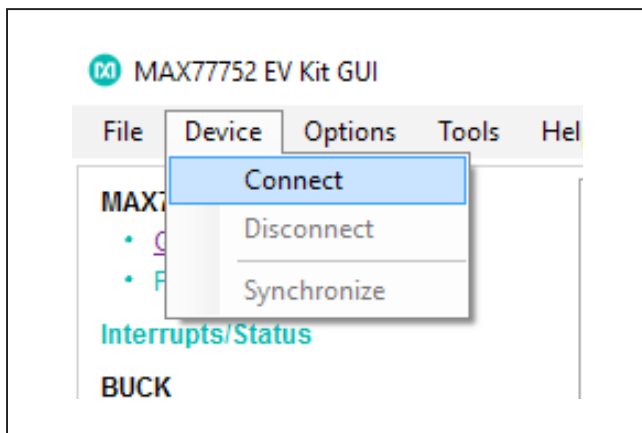
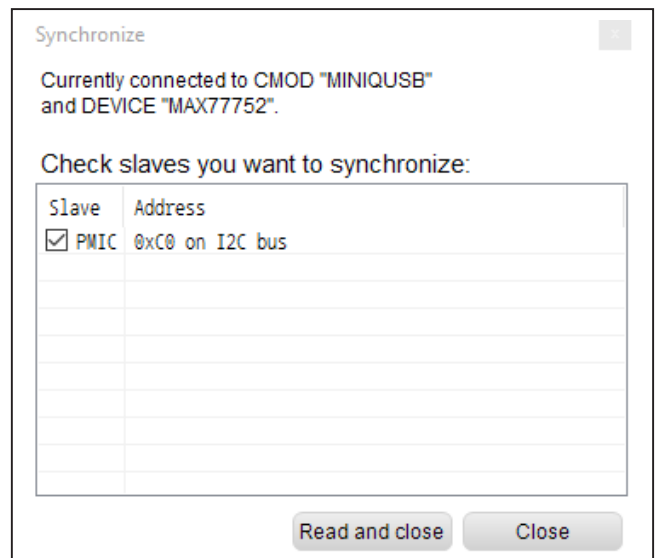

Figure 4. Quick Start: Regulator Check with the ADC
Figure 5. Connecting to the MAX77752 PMIC
- 8) In the upper left corner of the GUI, select **Device**. Connect as shown in Figure 4. Once connected, a pop-up window is shown (see Figure 5). Click on the **Read and close** button.